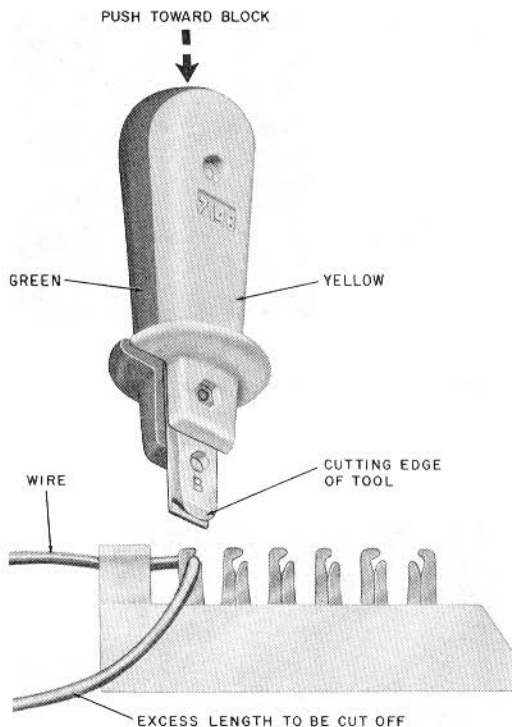

Fig. 9—Preparation for Making Ended Termination
**3.07** To make an **ended termination** (Fig. 9 and 10) using the 714B or D impact tool, observe the following procedure: